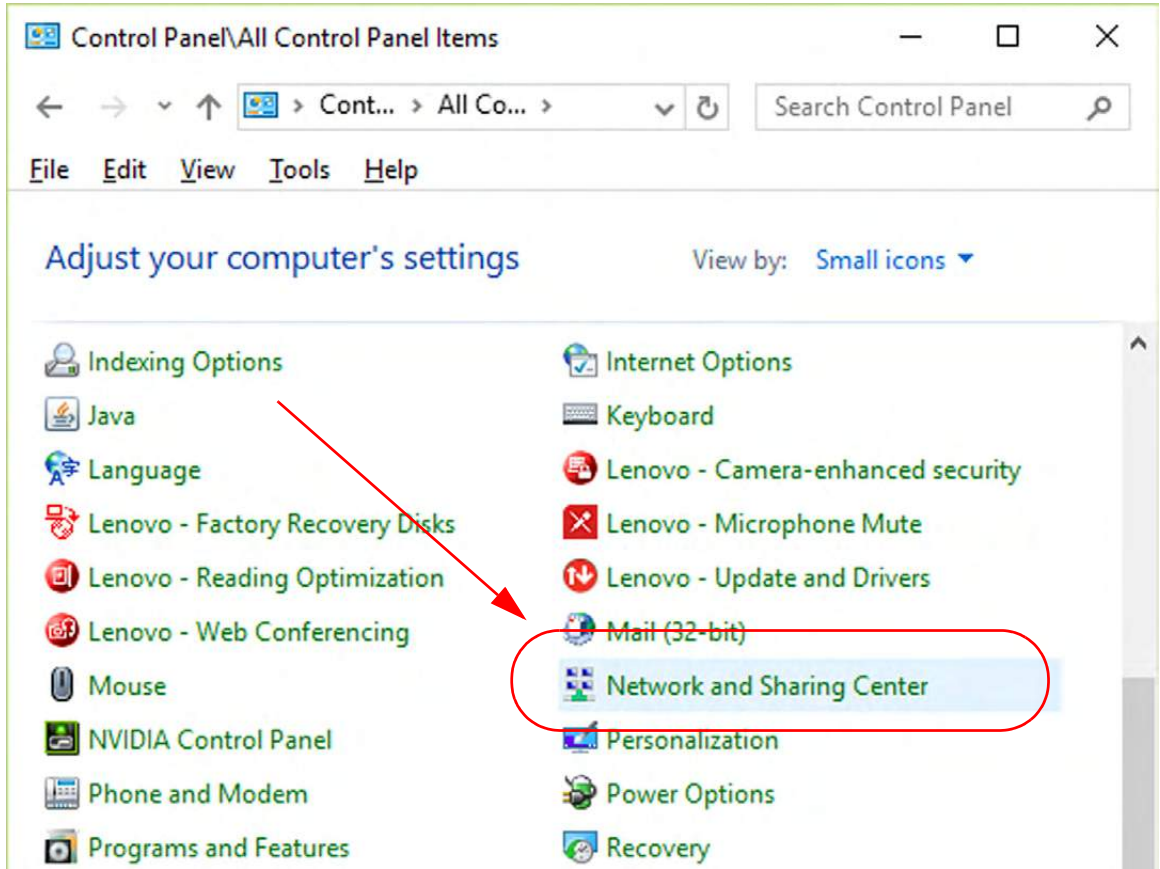

Figure 3.28: Control Panel: All Items -> Network and Sharing Center
1. To use a Static IP address, first set up your computer's IP address to a Static IP Address. Start by opening your Control Panel (Start -> Windows System -> Control Panel) and selecting the Network and Sharing Center icon. (See Figure 3.28 on page 121).